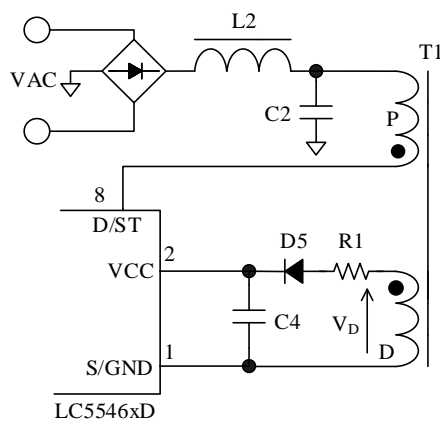

Figure 9-1. VCC Pin Peripheral Circuit
Figure 9-1 shows the VCC pin peripheral circuit. The IC has the startup circuit connected to the D/ST pin. When the D/ST pin voltage reaches the Startup Circuit Operation Voltage, $V_{STARTUP} = 21\text{ V}$, the startup circuit starts to operate. During the startup process, the constant current, $I_{CC(STARTUP)} = -4.0\text{ mA}$, charges C4 connected to the VCC pin. When the VCC pin voltage increases to $V_{CC(ON)} = 15.1\text{ V}$, the IC starts to operate. After that, the startup circuit is automatically cut off to eliminate power dissipation by the startup circuit.
voltage and the circuit current, I_{CC} . When the VCC pin voltage reaches the Operation Start Voltage, $V_{CC(ON)} = 15.1\text{ V}$, the control circuit starts to operate, then the circuit current increases. When the VCC pin voltage decreases to $V_{CC(OFF)} = 9.4\text{ V}$, the control circuit operation is stopped by the undervoltage lockout (UVLO) circuit, and is put back to the state before startup. After the IC starts switching operation, the rectified auxiliary winding voltage is supplied to the VCC pin. The auxiliary winding voltage, V_D , is presented in Figure 9-1. In the variation range of the input and output specifications, the winding turns of the auxiliary winding, D, should be adjusted so that the VCC pin voltage falls within the range defined by Equation (2). The reference voltage across an auxiliary winding is about 20 V .